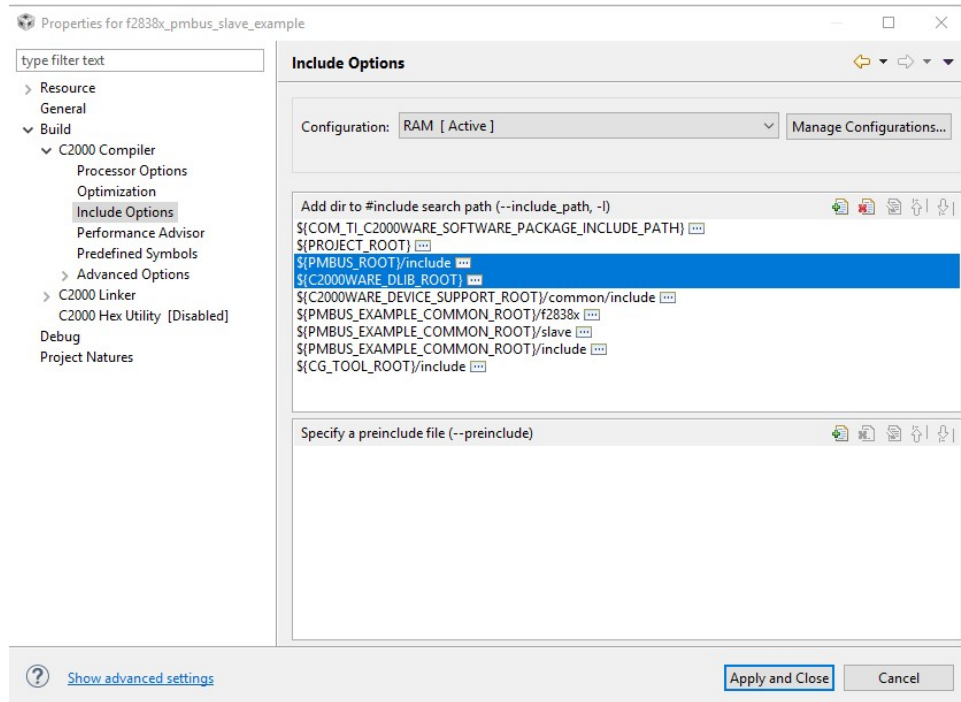

Figure 4.2: Adding the Library Header Path to the Include Options
1. Go to the **Project Properties** and add a path to the device driverlib directory, to the *Include Options* section of the project properties (Fig. 4.2). This option tells the compiler where to find the device driver header files. In addition, you must add a path for the PMBus stack interface, for the compiler to find the stack header files.